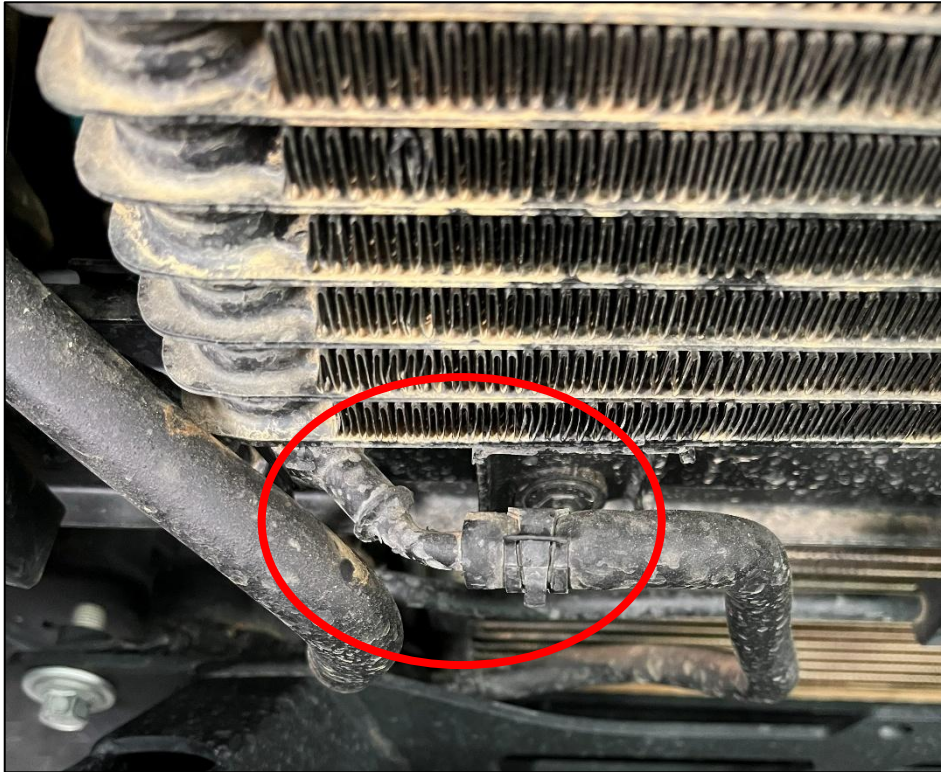

Figure 10
13. Disconnect the Lower Fluid Hose on the OE Transmission Cooler from the Cooler and the Barb on the Bottom of the Core Support. Retain the (2) two OE Hose Clamps as they will be reused. *Figure 10.*